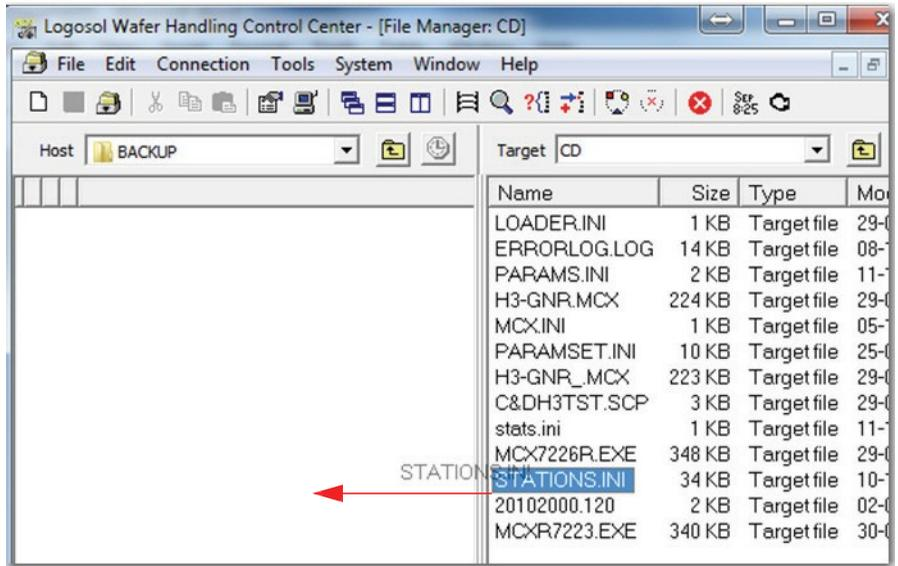

FIGURE 6-5: Dragging STATION.INI file from Target to BACKUP directory
10. Drag and drop the `STATION.INI` file from the Target directory to the `BACKUP` directory. See Figure 6-5.